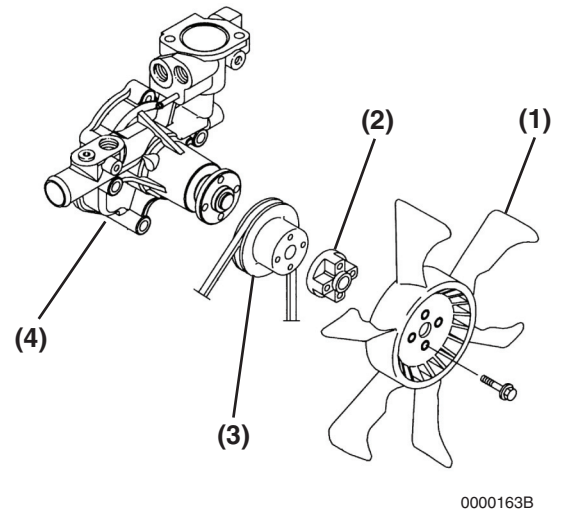

Figure 8-7
6. Remove the engine coolant fan guard (if equipped), engine coolant fan (**Figure 8-7, (1)**), spacer (**Figure 8-7, (2)**) and engine coolant pump V-pulley (**Figure 8-7, (3)**).
8. Remove the engine coolant pump (**Figure 8-7, (4)**). Discard the gasket.